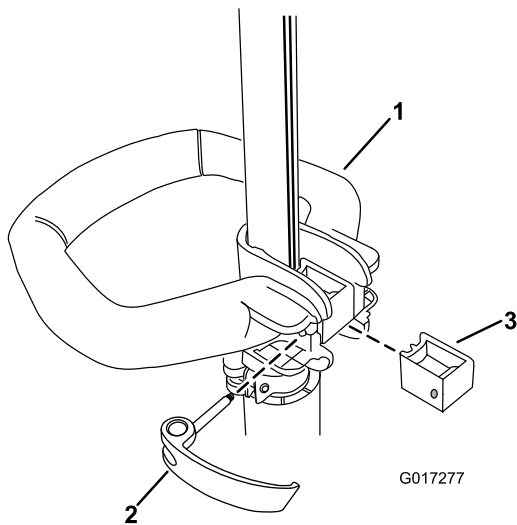

Figure 5
1. Position the auxiliary handle on the shaft of the trimmer with the smooth surface facing the operator (Figure 5).
2. Slide the brace into the auxiliary handle so that the brace rests in the groove along the shaft (Figure 5).
3. Slide the latch from the left through the handle and brace as shown and tighten the latch screw with a Phillips head screwdriver (Figure 5).